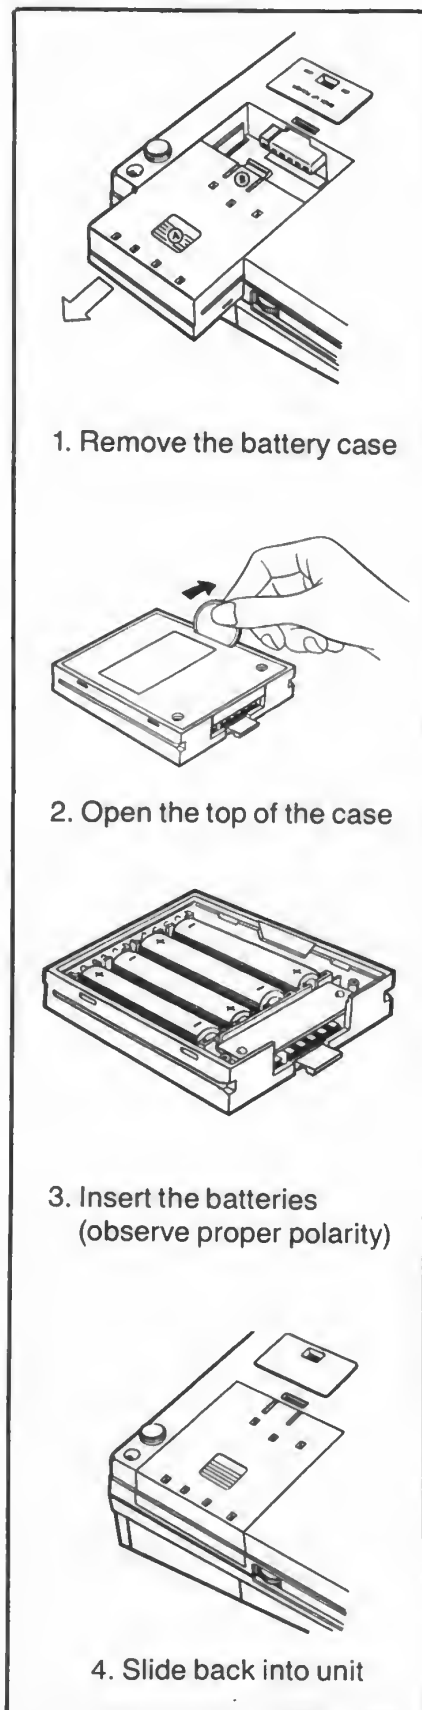

Fig. 1-1 Installing the Batteries
1. Get 4 size AA alkaline batteries and place them in the slide-out battery cassette (Figure 1-1).